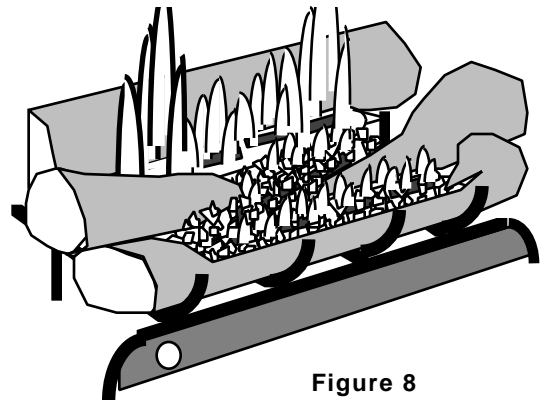

Figure 8
- A full bodied, lively flame. The flame will be blue at the base and a combination of blue and yellow at the body and tips. Figure 8.